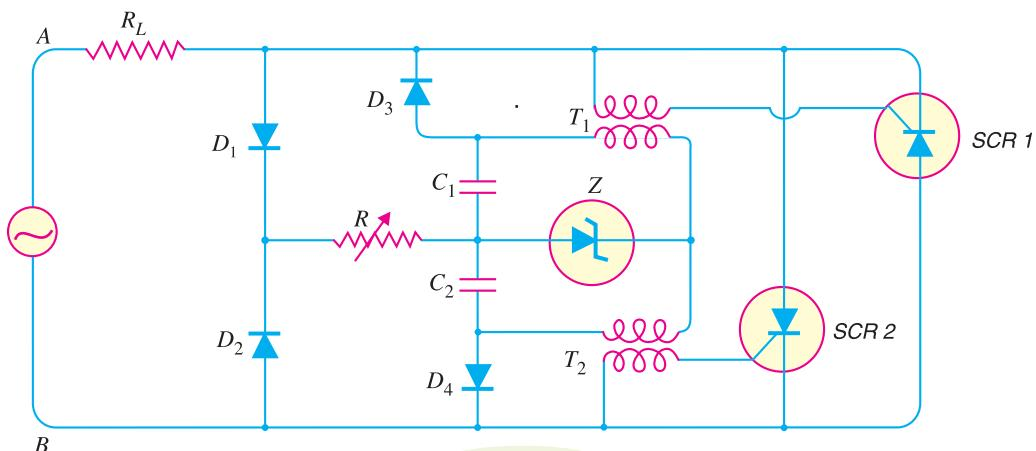

Fig. 20.20
**(ii) SCR for power control.** It is often necessary to control power delivered to some load such as the heating element of a furnace. Series resistances or potentiometers cannot be used because they waste power in high power circuits. Under such conditions, silicon controlled rectifiers are used which are capable of adjusting the transmitted power with little waste. Fig. 20.20 shows a common circuit for controlling power in the load  $R_L$ . During the positive half-cycle of a.c. supply, end A is positive and end B is negative. Therefore, capacitor  $C_2$  is charged through  $AD_1RC_2D_4B$ . The charge on the capacitor  $C_2$  depends upon the value of potentiometer  $R$ . When the capacitor  $C_2$  is charged through a sufficient voltage, it discharges through the zener Z. This gives a pulse to the primary and hence secondary of transformer  $T_2$ . This turns on SCR2 which conducts currents through the load  $R_L$ . During negative half-cycle of supply, the capacitor  $C_1$  is charged. It discharges through the zener and fires SCR1 which conducts current through the load.